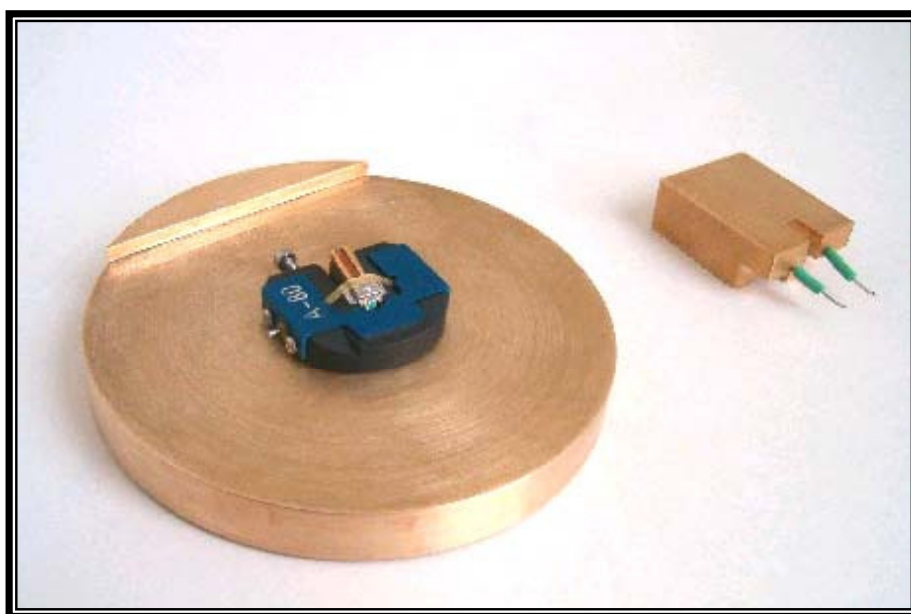

Fig. 2.16: Positioning the cantilever holder on the CEB base.
1. Place the cantilever holder on the CEB base as shown in Fig.2.16.